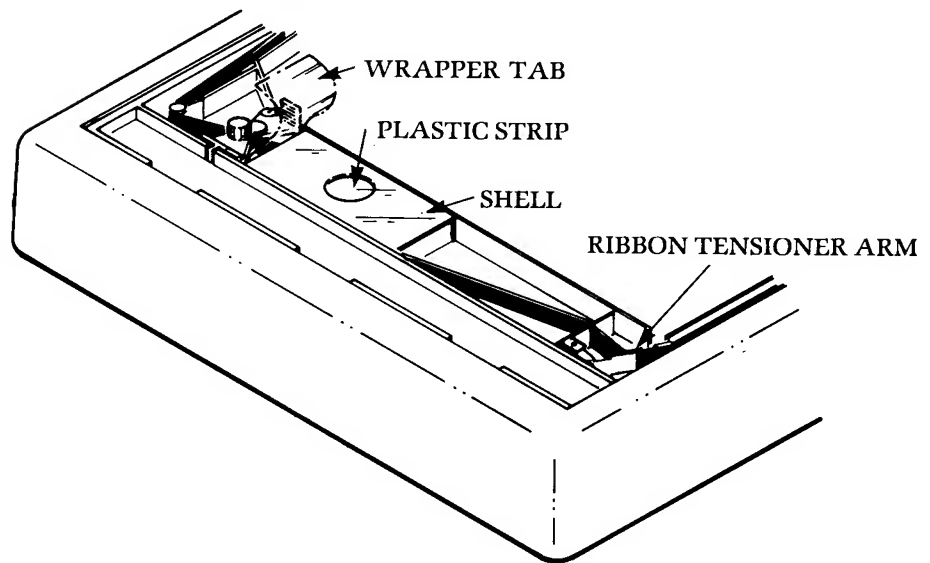

Figure 11. Zip-Pack Installation
9. Hold the ribbon in place by pressing down on the plastic **STRIP** through the hole in the **SHELL**. Now pull the **WRAPPER TAB** to remove the wrapper from around the ribbon (see Figure 11).